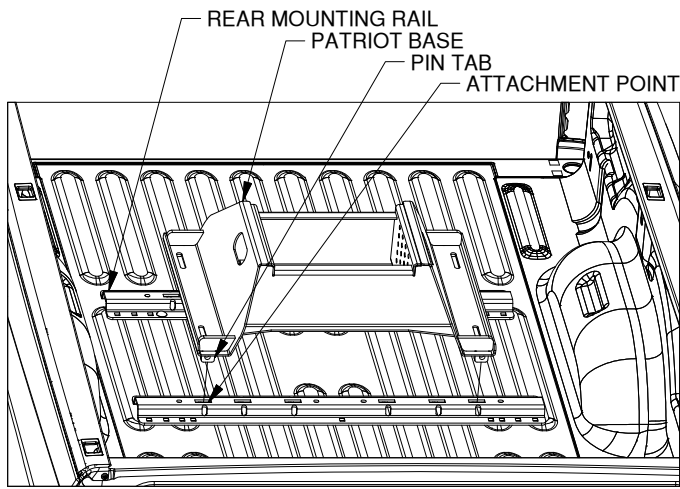

Figure C1: View into truck bed looking towards tailgate.
- Position the forward mounting rail.** For this step the base which will be used in the mounting rails is required. Place a mounting rail into the truck bed in front of the rear mounting rail. Place the base over the rail attachment points and carefully lower it until the pin tabs pass through the attachment points on the rear mounting rail. Attach the forward mounting rail to the forward mounting points on the base. The base should rest flat against the top of the rails, see Figure C1. With the base still attached ensure that the forward rail is centered in the truck bed.